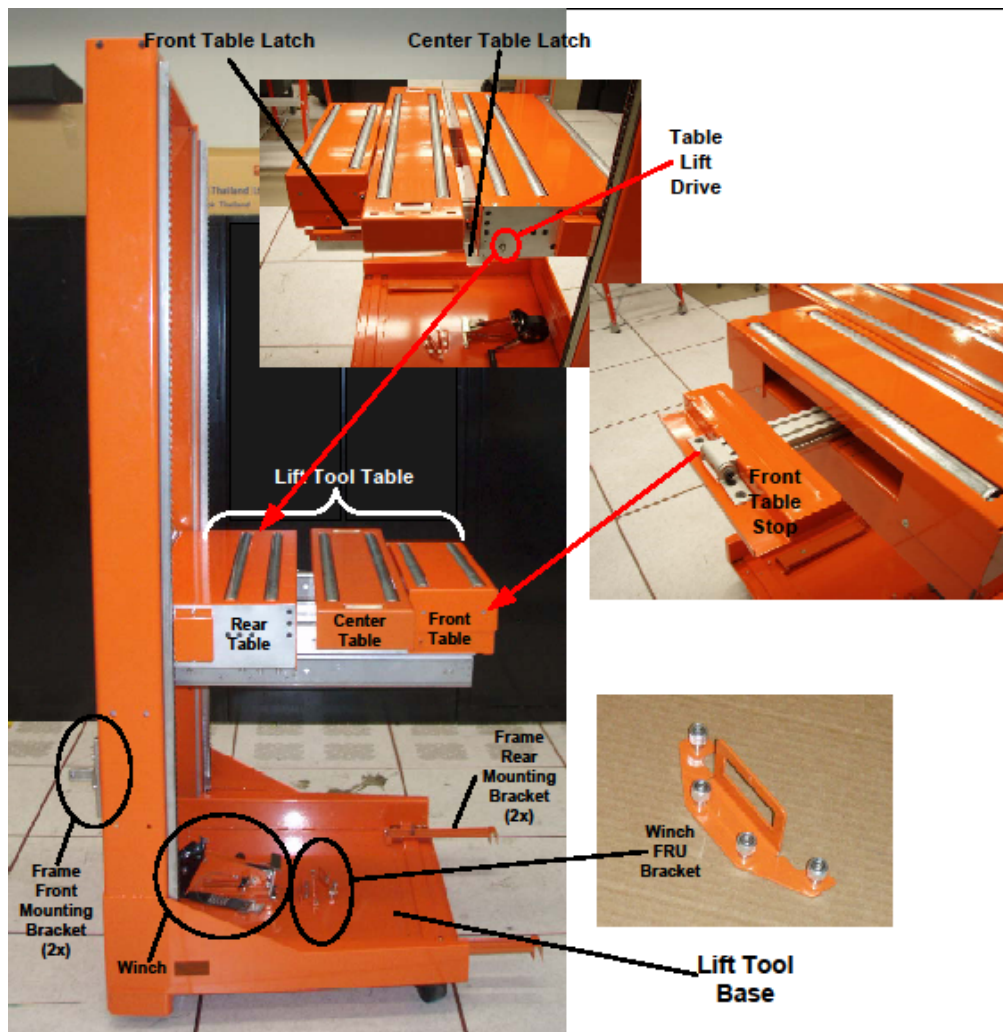
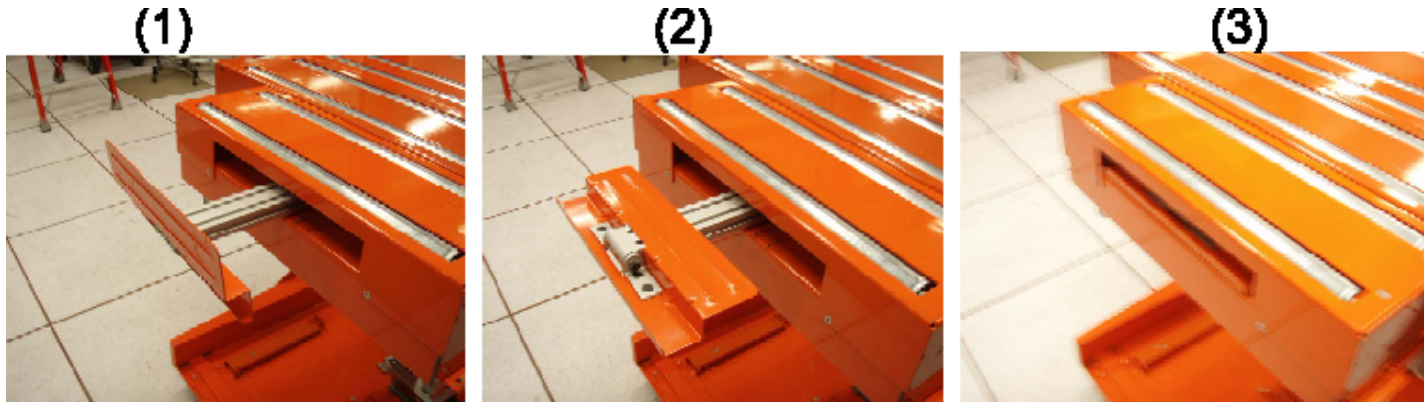

Figure 24 Lift Tool Components (Do not move Lift Tool in this state)
Figure 29 Front Table Stop
46. Attach Lift Tool (P/N 74Y1087) to front of rack (see Figure 24 thru Figure 29 and Steps A) thru F) below for general Lift Tool description and set up)